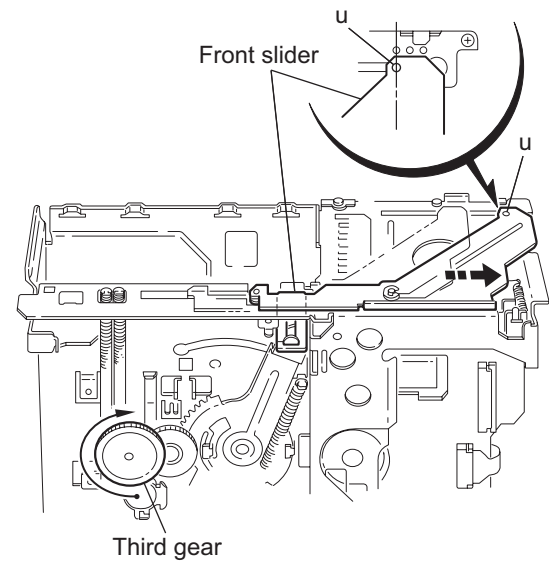

Fig.48
2.5.7 Mounting the main board (See fig.48)